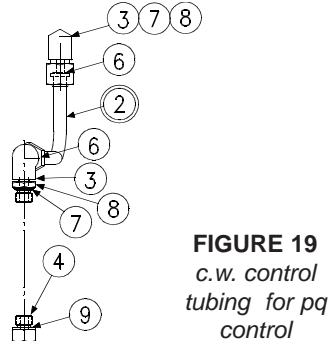

FIGURE 19
PARTS LIST FOR FIGURE 19
7. Install proportional valve with LVDT, (9). Torque screws (22) to 66 in.-lb (7,5 Nm).
8. For 200 series, install adapter, (27).
9. Install tubing assembly (Figure 19, 20).